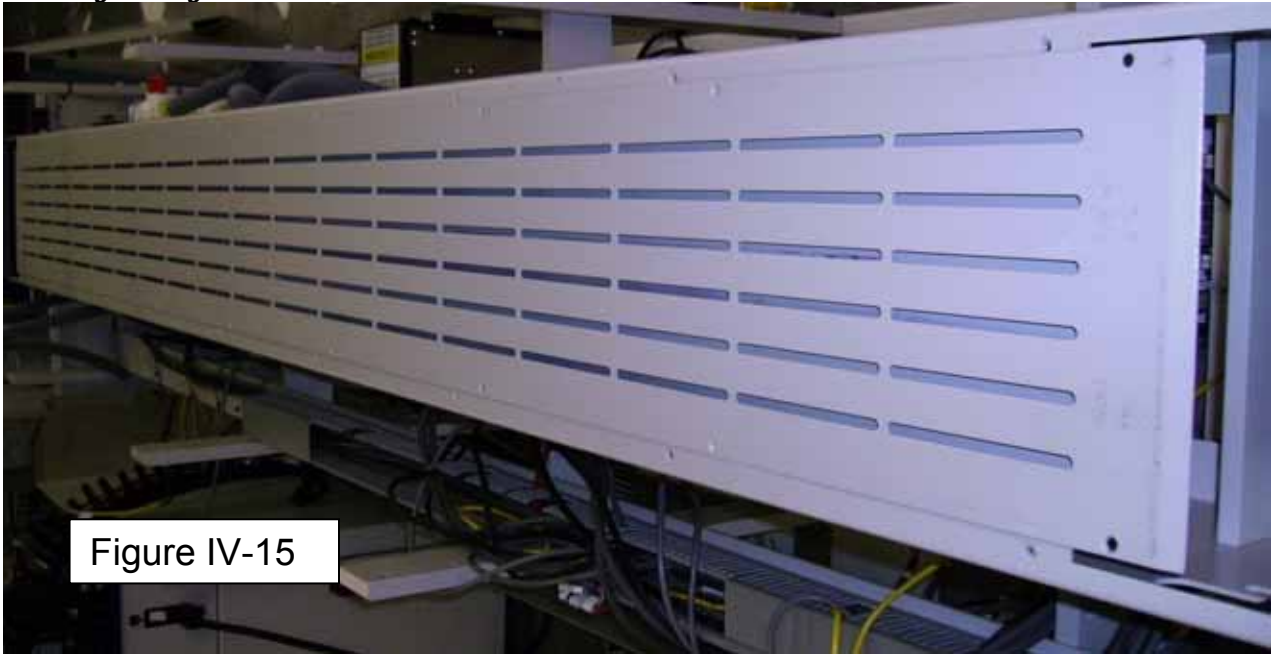

Figure IV-14
18. Cut ty-wrap clamps from the vacuum hoses attached to the vacuum chamber on the conveyor. Remove hoses and all hose barbs that would interfere with removal of the conveyor bed from the attacher frame. See figure IV-14.